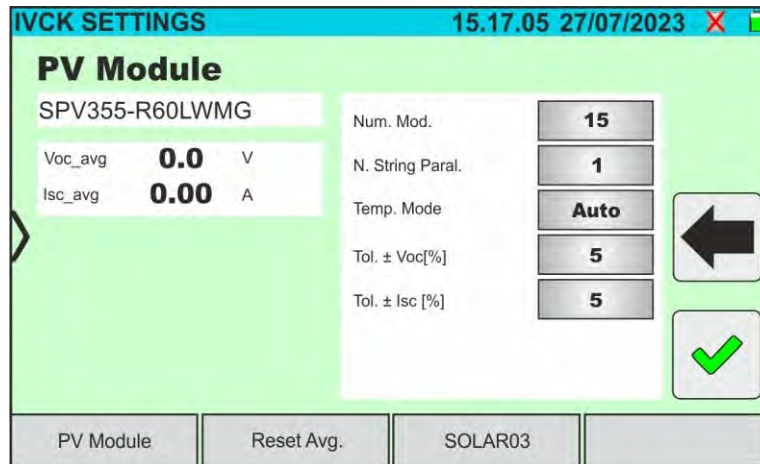

Fig. 48: IVCK test parameter settings
6. Tap on the **"Settings"** key (Monofacial module reference). The following screen is shown in Fig. 48. The following parameters are given: